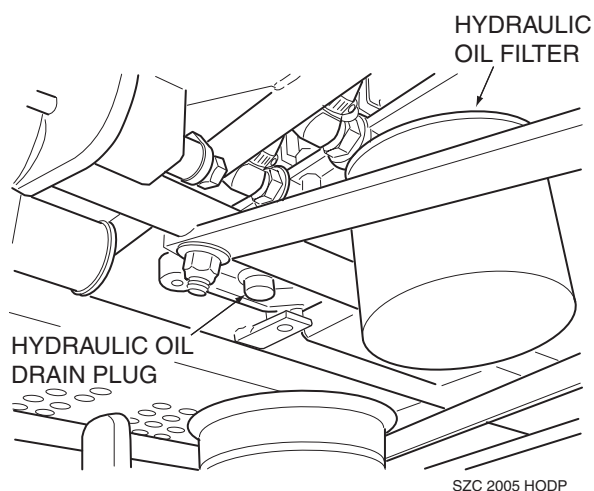

Figure 7-3 Hydraulic Oil Filter and Drain Plug
2. Place a suitable container under the hydraulic oil filter. Tilt the seat forward. Remove the fill cap from the reservoir and the drain plug from the bottom of the reservoir. (See Figure 7-3). Allow the fluid to drain into the container and properly discard it.
1. Remove the oil filter element (Figure 7-3, Page 31) and properly discard it. Fill the new filter with clean SAE 20W50 engine oil and install the filter. Hand tighten only.